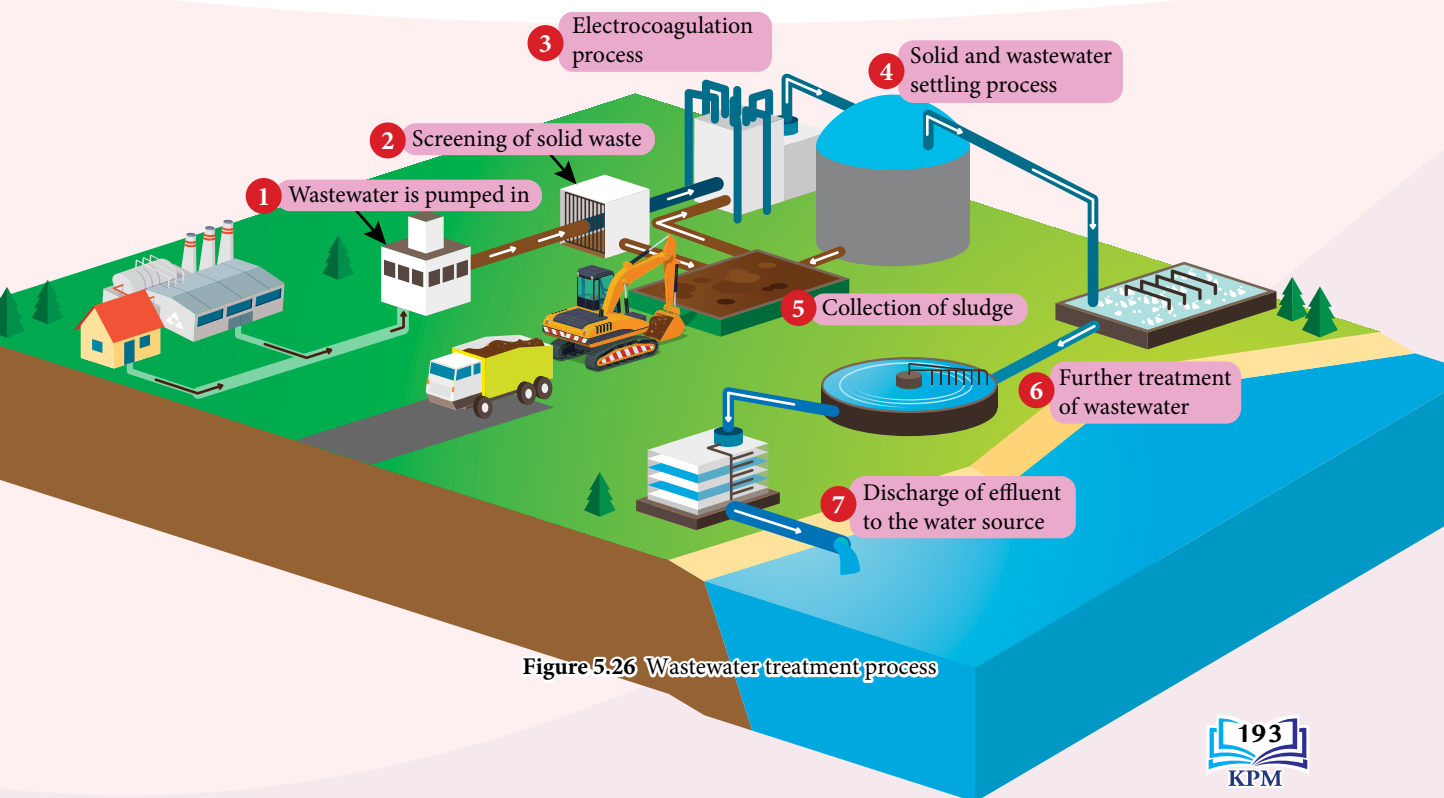

Figure 5.26 Wastewater treatment process
- Steps in wastewater treatment are briefly shown in Figure 5.26.